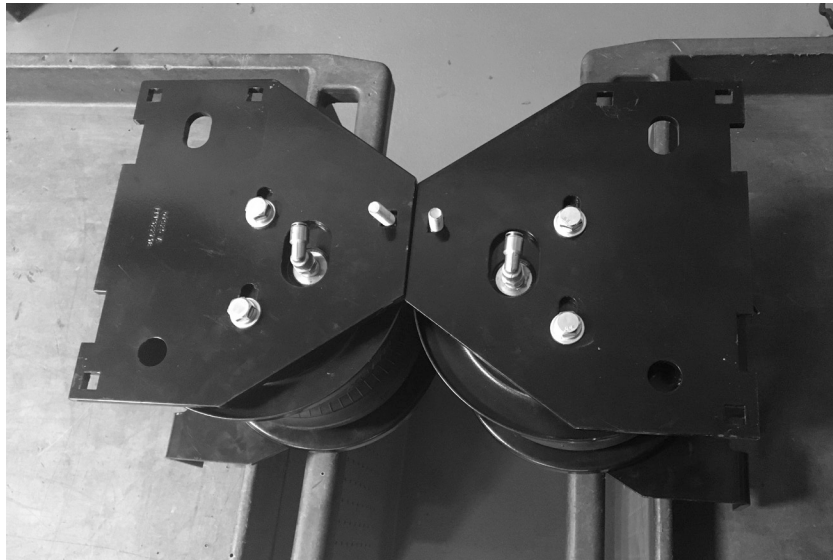

Fig. 16
9. Refer to Figure 16 for the driver's (left) and passenger's (right) side assemblies.